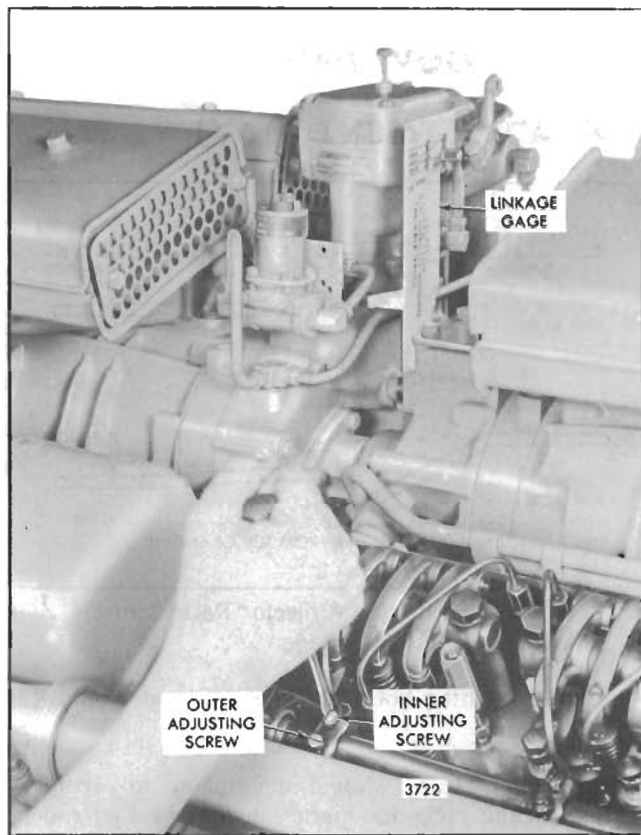

Fig. 4 - Positioning No. 4R Injector Rack Control Lever
6. Adjust the No. 4R injector rack by turning the inner adjusting screw down until it bottoms on the control tube (Fig. 4). Turn down the outer adjusting screw until it also bottoms on the control tube.